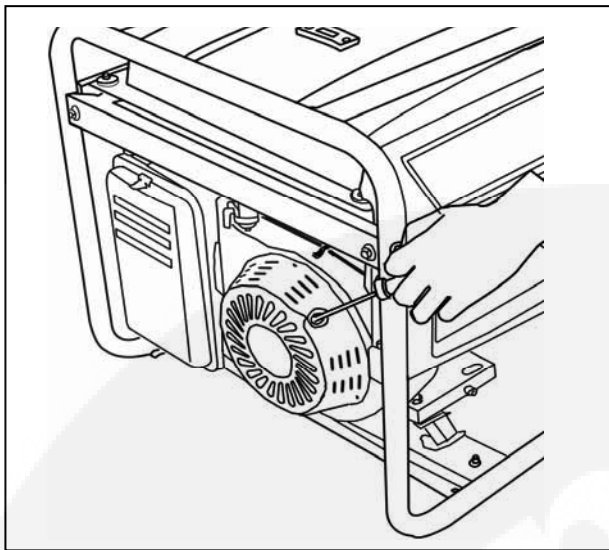

FIGURE 6. RECOIL START HANDLE
4. With one hand on the generator, grip the recoil handle (Figure 6) with the other hand and pull it out smoothly and quickly. Repeat as necessary. Gradually push the choke rod in as the engine warms up.